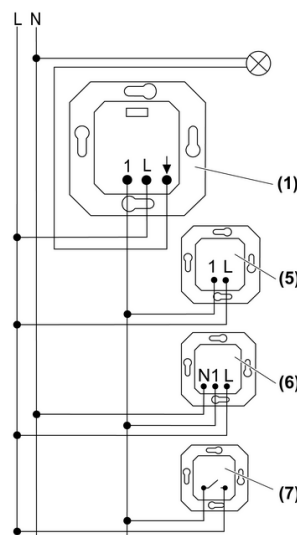

Figure 2: Connection diagram with optional extensions
- (1) Up insert
- (5) Extension insert, 2-wire
- (6) Extension insert, 3-wire
- (7) Installation button, NO contact
- Connect UP insert according to connection diagram (figure 2).
- Attach the frame (2) and the top (3).